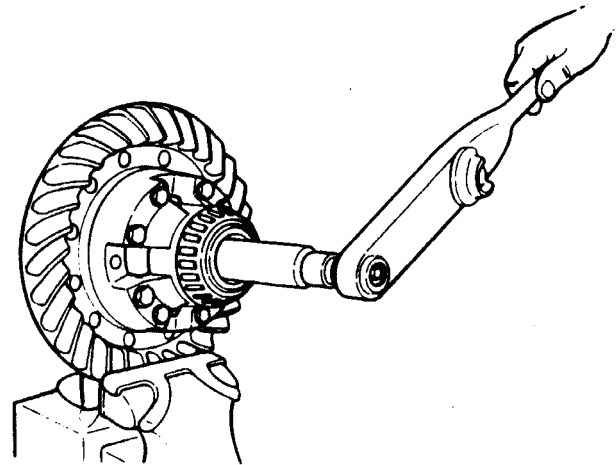

Figure 64.
- (2) Place differential and ring gear assembly in a vise. Refer to Figure 64.
- (3) Insert checking tool made from splined axle shaft end (refer to Figure 64) into differential nest. Allow splines of tool to engage with spline of one side gear only.